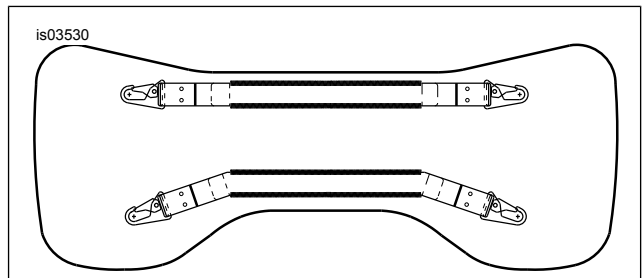
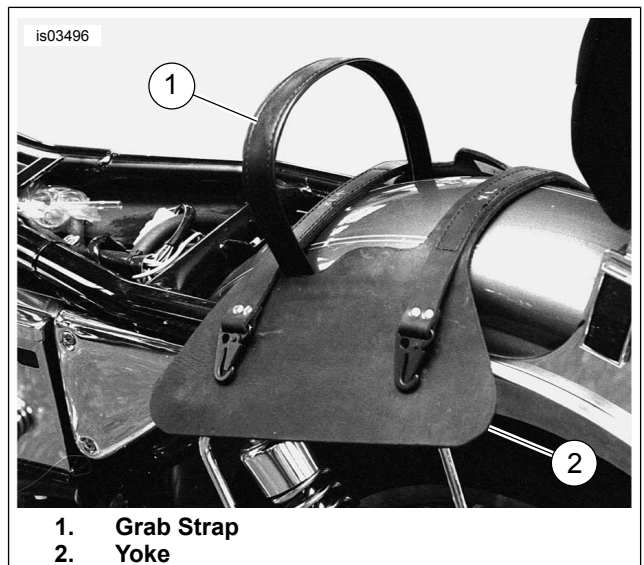

Figure 1. Yoke Positioned for Installation (2004 and later XL)
Figure 2. Yoke Positioned on Rear Fender (1982 through 2003 XL)
2. See Figure 1 or Figure 2. Position the yoke with the "arrow" facing up and forward (toward front of motorcycle).